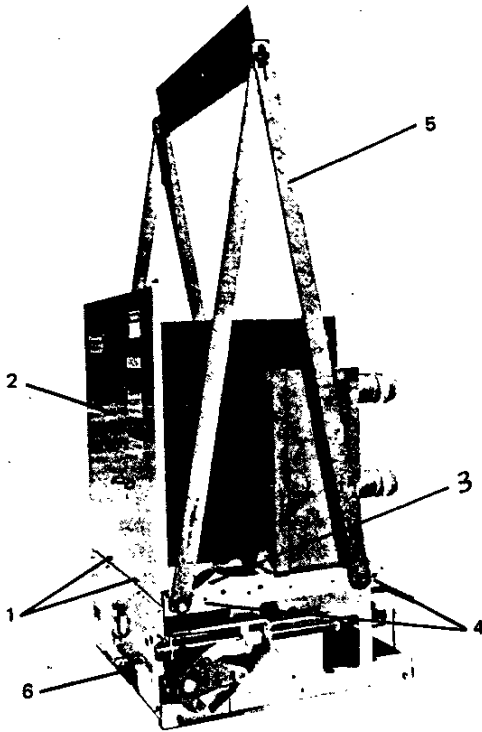

Fig. 1 — Circuit Breaker Assembly with Lifting Yoke Installed
REFERRING TO FIG. 1, IF IT IS NECESSARY TO RAISE OR MOVE THE BREAKER, ATTACH A LIFTING YOKE (5) AT POINTS 4 ON BOTH SIDES OF THE TRUCK, OR A FIFTH WHEEL AT POINT 6 TO TRANSPORT THE BREAKER AS REQUIRED.
THE FRONT COVER AND INTERPHASE BARRIER ASSEMBLY (2, FIG. 1) MUST BE REMOVED FOR ACCESS TO AND INSPECTION OF THE VACUUM INTERRUPTERS, AND THEIR ASSOCIATED ADJUSTMENTS.
### REMOVING FRONT COVER AND INTERPHASE BARRIER (SEE FIG.1)
INSTALLATION FRONT COVER AND INTERPHASE BARRIER (SEE FIG. 1)